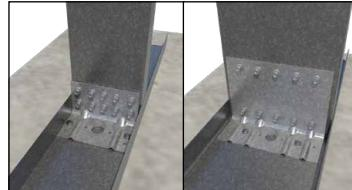

Figure 1 Kwik-Cons
- An “*” in the shear column indicates that the shear capacity is limited to 642 lbs for D683 and T683 clips, 917 lbs for D973 and T973 clips, and 994 lbs for D685, D975, T685, and T975 clips when using 1/4" x 2-1/4" Hilti® Kwik-Cons to 3000psi concrete as shown in Figure 1.
- “*” in the moment column indicates that moment capacity is limited to 1706 in.-lb. for 3" clips, and 2231 in.-lb. for 5" clips when using 1/4" x 1-3/4" Hilti® Kwik-Cons to 3000psi concrete as shown in Figure 1.
- For 20 and 18 gauge studs, the tabulated moment capacity is based on 18 gauge minimum base track, with (1) #10-16 screw at each track leg to stud flange. For 16 gauge and heavier studs, the base track shall be 14 gauge minimum.
- Tabulated moment capacity is based on a stud to clip connection using (6) #10-16 screws.